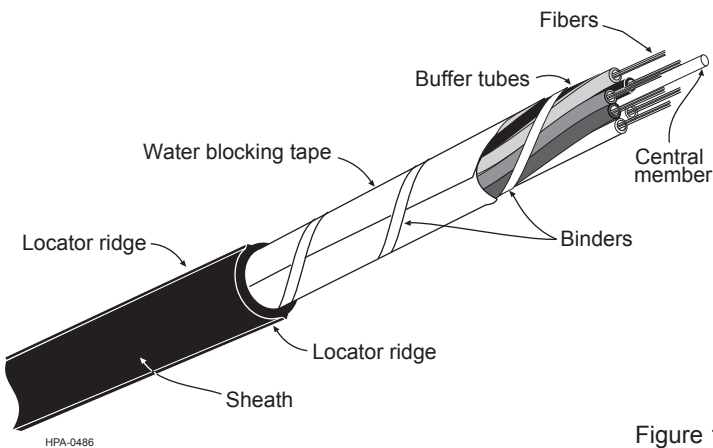

Figure 1
1.1 This procedure describes cable-end and mid-span sheath removal and fiber access of ALTOS cables which feature Corning Cable Systems FastAccess™ Technology (Figure 1).